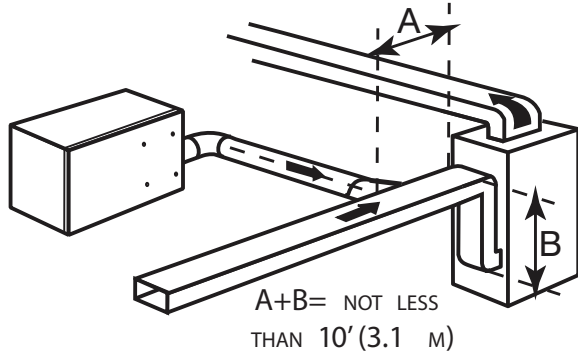

Fig. 11 – Return Side Connection
- Connect this opening to the fresh air distribution port of the HRV/ERV. See Fig. 11.